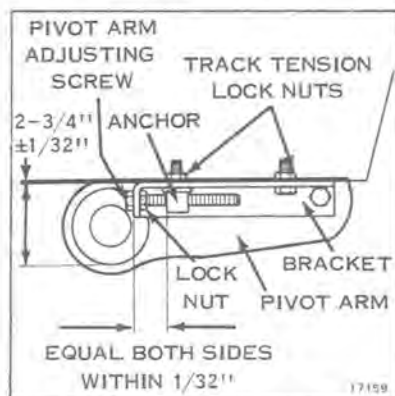

Figure 11-6
Track tension is correct when the distance from the bottom of the pivot arm bearing bore to the underside of the running board is $2\frac{3}{4} \pm \frac{1}{32}$ inch on both sides. See Figure 11-6.
- b. Loosen track tension lock nuts and lock nut on pivot arm adjusting screw. See Figure 11-6.
- c. Adjust track so that the dimension shown in Figure 11-6 is obtained.
- d. Measure distance from front edge of adjusting bracket to anchor. If this distance is not equal on both sides, loosen the adjustment on the side nearest to the rear until the distance from front edge of the adjusting bracket to the anchor is equidistant within $\frac{1}{32}$ inch. See Figure 11-6.
10. Remove four track tension locknuts. See Figure 11-6. Rear axle can now be removed.